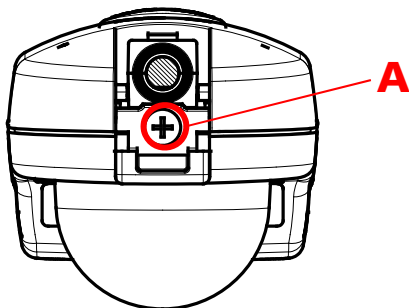

Figure 10: Handset Back / Solve Screw
1. Release the screw (A) of the cable holder (Fig. 10)